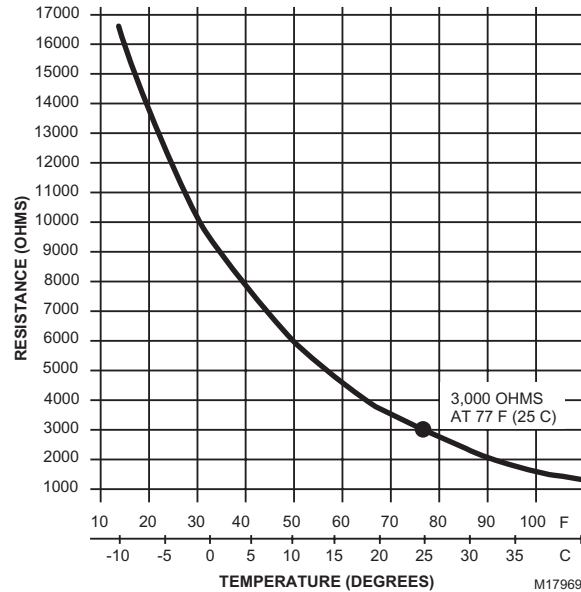

Fig. 3. C7150B1004 Sensor resistance temperature.
3. Nominal resistance measurements should be in accordance with the resistance/temperature curves shown in Fig. 3 and 4.